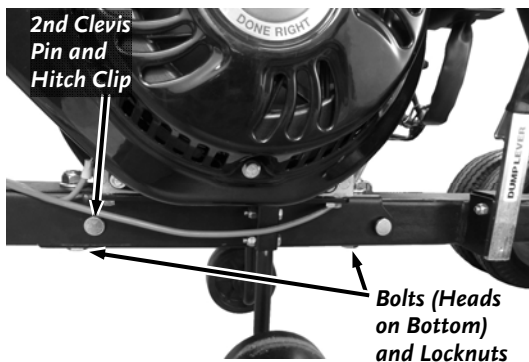

Figure 18
4. Insert the 2nd 1/2" X 3.5" Clevis Pin and Hitch Clip into the front holes of the Engine Unit and Cart Frame (**Figure 18**).